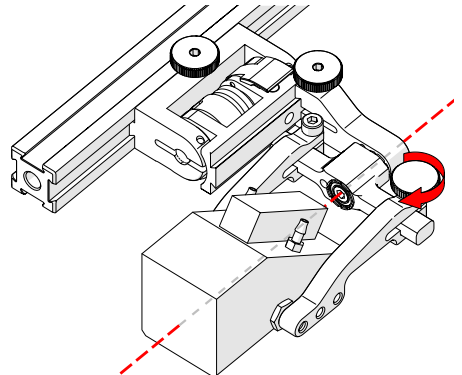

Fig. 48 - Pinch wedge with arm
9. Tighten the probe holder arm adjustment knob (Fig. 48).